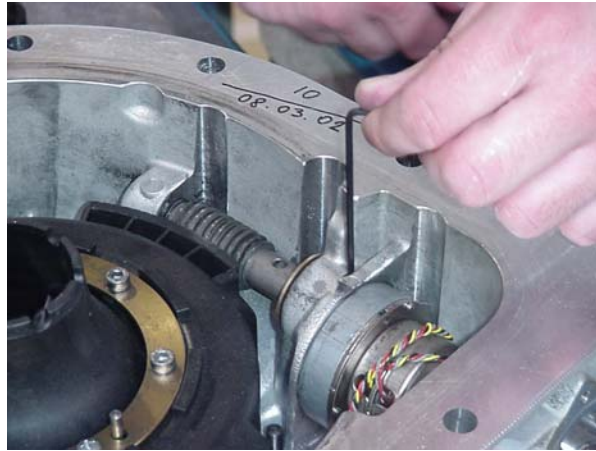

Figure 6-25 Loosening the Setscrew
4. Using a 2.5 mm Allen key, loosen the setscrew that secures the stepper motor to the worm gear; refer to Figure 6-25. If necessary, rotate the worm gear (using an Allen key in the worm gear hole) to expose the setscrew.